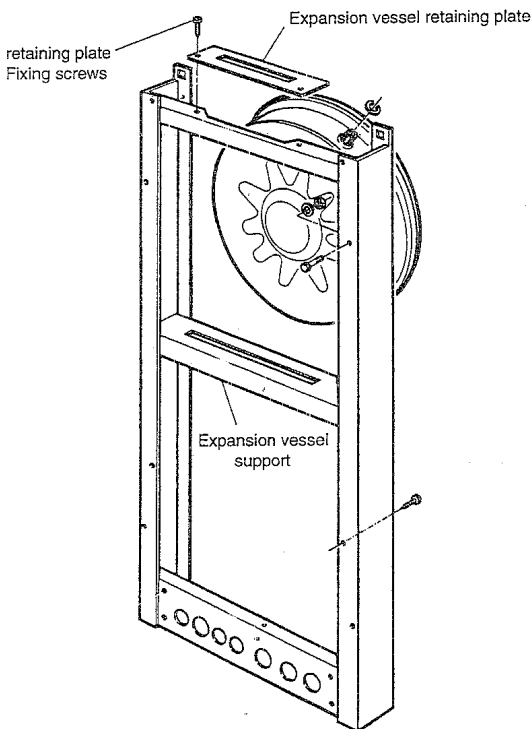

Fig. 47
- II) Remove the two screws from the expansion vessel securing plate, (fig. 47) which can be found at the top back of the boiler
- III) Undo the compression fitting on the top of the expansion vessel (fig. 47).